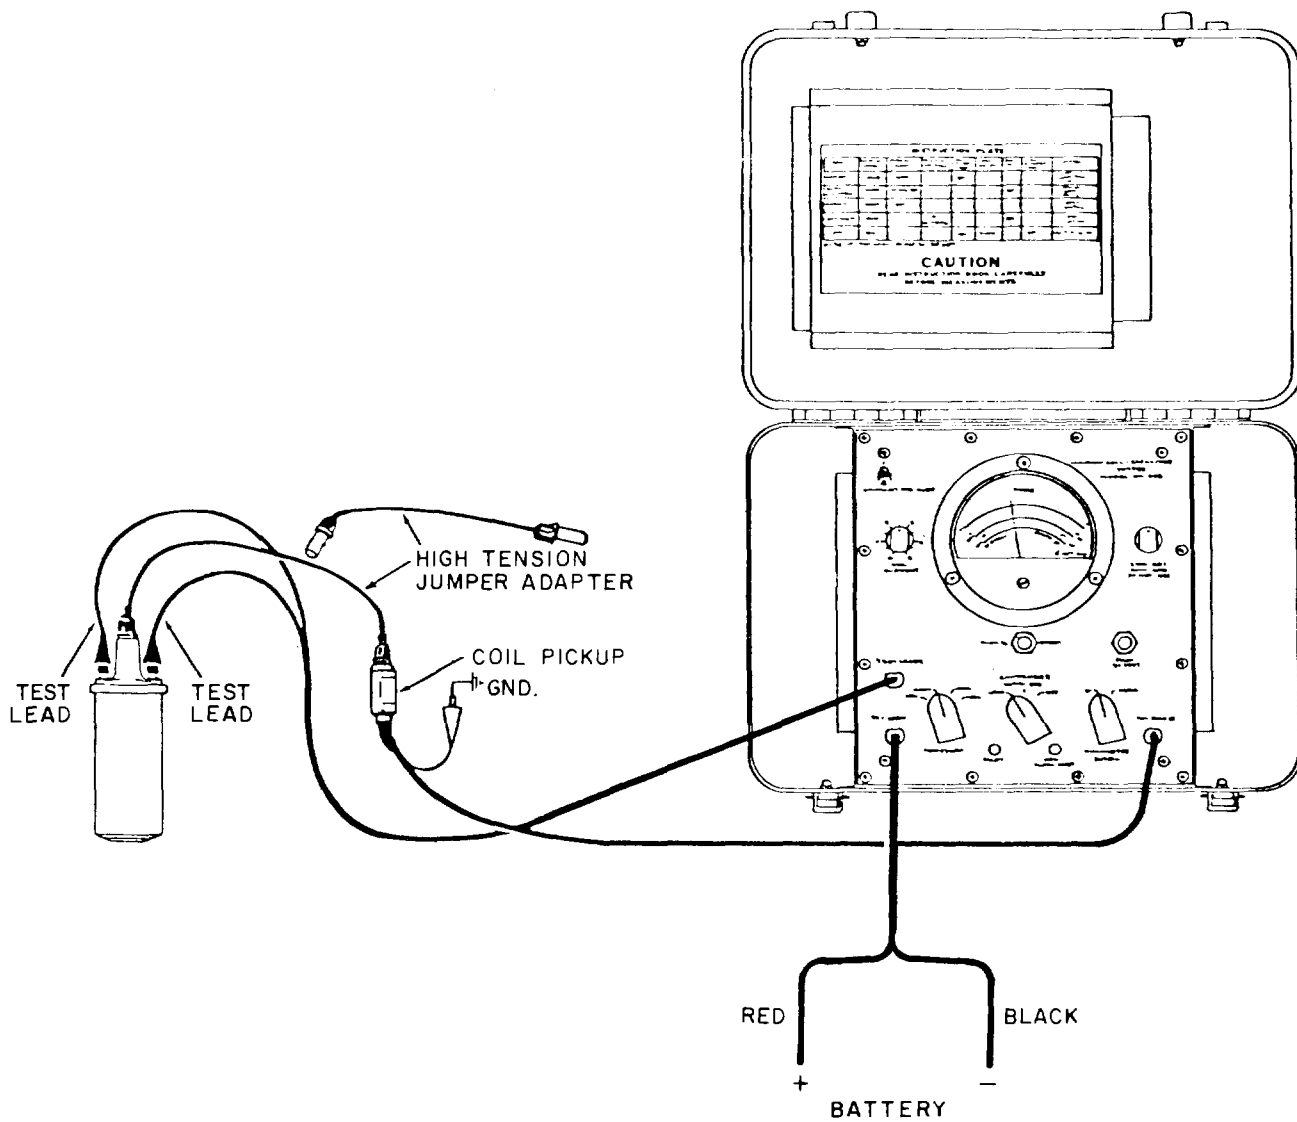

Figure 2-4. Setup for Testing Coil Voltage
- (1) Set FUNCTION switch to OFF.
- (2) If test is being performed on a coil mounted in the vehicle, disconnect the primary leads from + and - coil terminals and disconnect secondary lead from coil tower. (If the coil is Delco-Remy 1115282, disconnect connectors marked "-" and SECONDARY and remove the lead attached with screw in the center of the coil.)
- (3) Connect BAT LEADS to battery as follows: Red +12 V lead to + terminal and black -12 V lead to - terminal.
- (4) Set COIL CURRENT control to extreme counterclockwise position.
b. Coil Voltage Test (Prestolite-Autolite 115047, Delco-Remy 1915992, and P&D Mfg. VC2X). See figure 2-4 and proceed as follows: